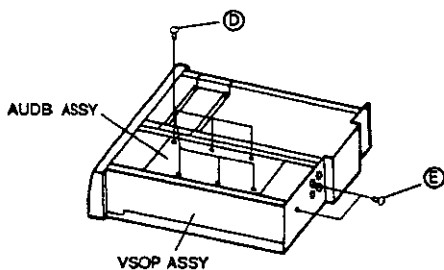

Fig. 2
4. Remove the 6 screws ⑦ that stabilize the AUDB ASSY. (Fig. 2)
5. Remove the 2 screws ⑧ on the rear side. (Fig. 2)